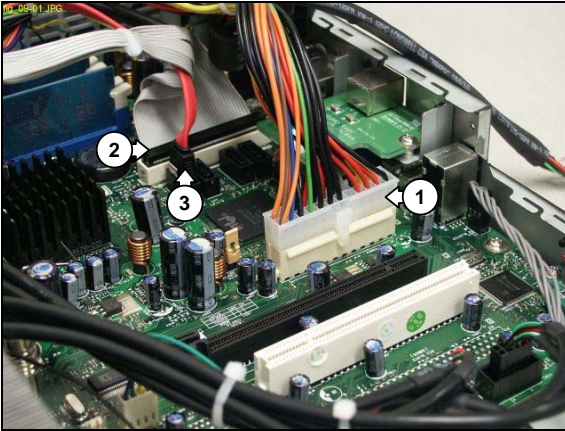

Figure 12.9-1
3. Disconnect the PSU cable (1) from the motherboard. See Figure 12.9-1.
4. Disconnect the ATA\_33 cable (2) from the motherboard. See Figure 12.9-1.
5. Disconnect the SATA cable (3) from the motherboard. See Figure 12.9-1.